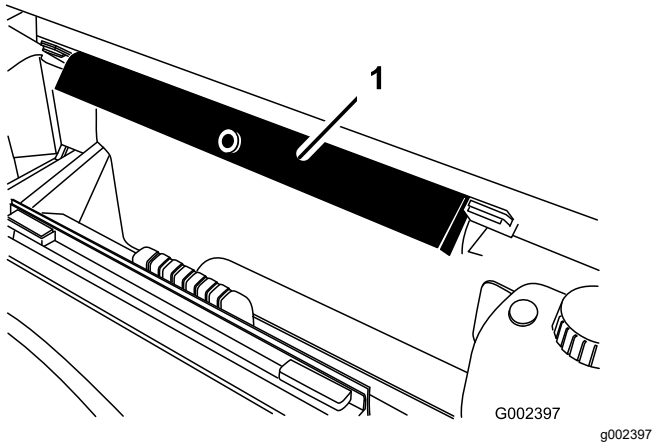

Figure 11
8. Remove the bed support from the storage brackets on back of the ROPS panel (Figure 11).